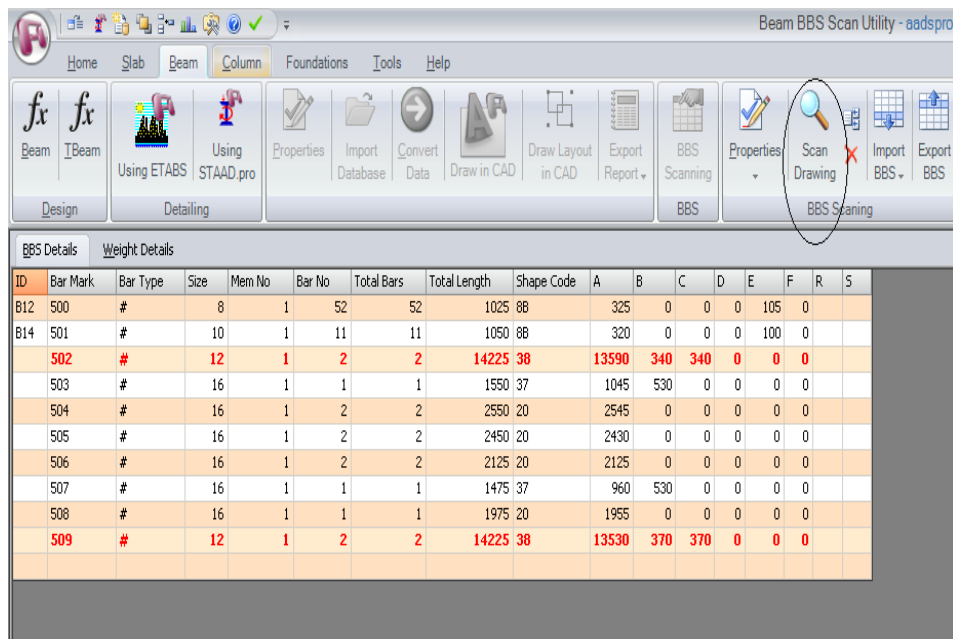

Fig. 6.3.4
- Click on the **Scan drawing** from tool bar (fig 6.3.4)
- Bar mark = Bark mark given in Result (500,501 etc as shown in Fig 6.3.4)